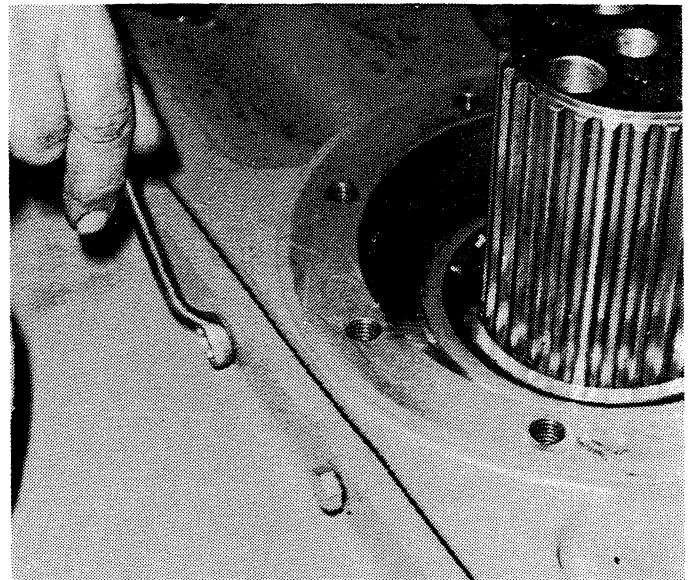

Figure 6-24. Removing or Installing Screws on Bottom Cover.
6. Support the bottom cover (Figure 12-5, 17) with a sling and remove twenty-two hex-head screws (19) that secure the bottom cover to the main housing. See Figure 6-24.